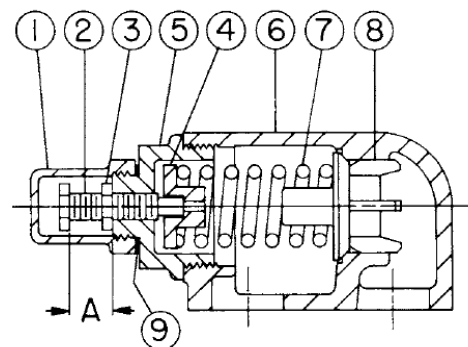

FIGURE 16 - SIZE G, H AND HL
2. Measure and record the length of extension of the adjusting screw. This measurement can be referred to as "A" on Figures 16, 17, and 18 on page 9 of the manual.
3. Using the recorded measurement from step 2 of the disassembly process, extend the adjusting screw to the same length as before. Refer to "A" on Figures 16, 17, and 18 on page 9 for guidance.